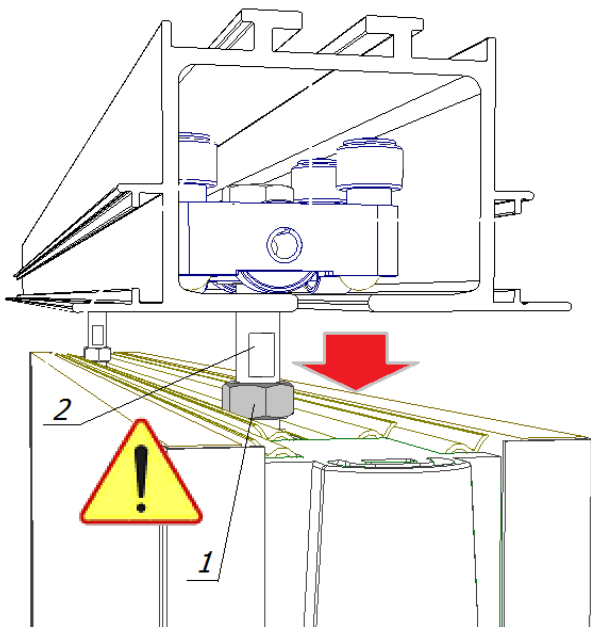

Fig.49. Countering the carriage
The counter nut (1) secures the unscrewing of the carriage screw (2), and thus the lowering or raising of the panel again, which would not match other panels. Therefore, it is necessary to counter ALL the nuts in the panel carriages by tightening them fully (Fig.49)!